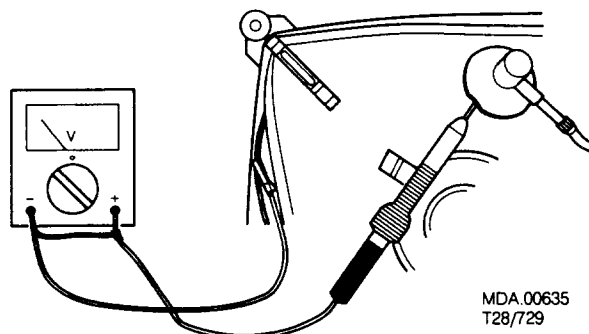

Fig. 3.1
2. In order to prevent damage to ICs and transistors, all high-voltage flash-overs must be avoided. In order to prevent damage to the picture tube, the method shown in Fig. 3.1 should be used to discharge the picture tube. Use a high-voltage probe and a multimeter (position DC-V). Discharge until the meter reading is 0 V (after approx. 30s).